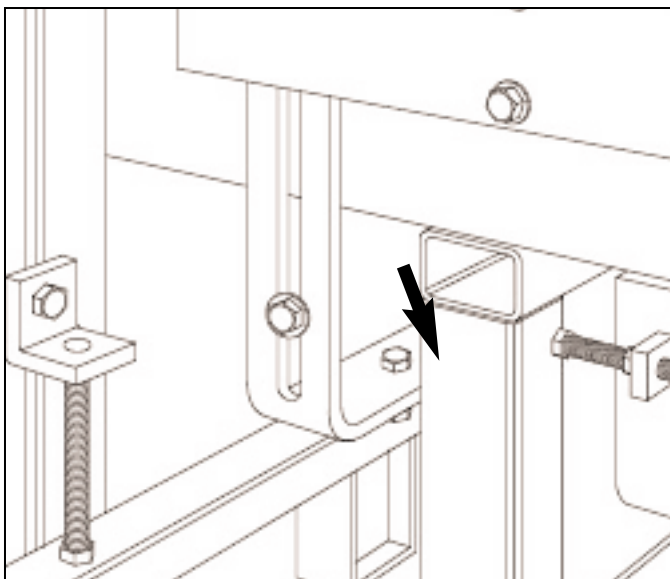

Figure 3.26 CONVEYOR BOLTED TO ACCUMULATOR
3.9.2.3 Bolt conveyor to unloader Accumulator as shown in figure 3.26.
3.9.2.7 Weld 1/2" sq. X 3" [13mm² X 76mm] key to secure legs (figure 3.26).
3.9.3.3 Weld 1/2" sq. X 3" [13mm² X 76mm] key to secure legs (figure 3.26).